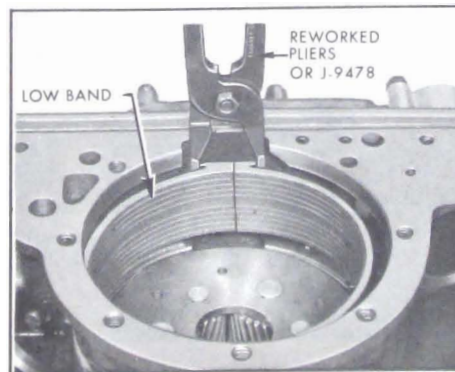

Figure 5-38—Removing Low Band
8. Compress the low band either with reworked pliers or tool J-9478 and remove band from case. See Figures 5-38 and 5-39.